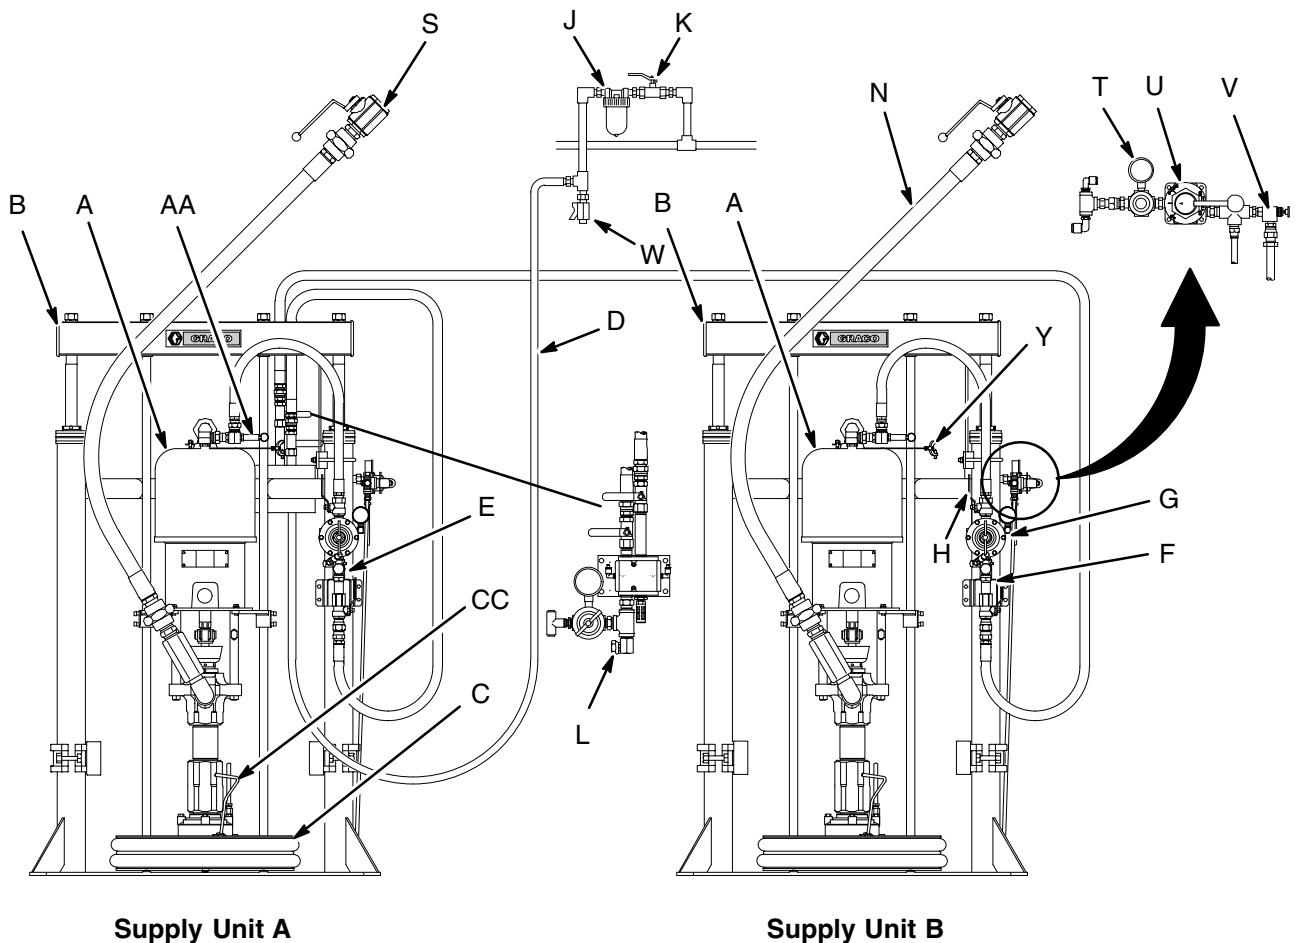
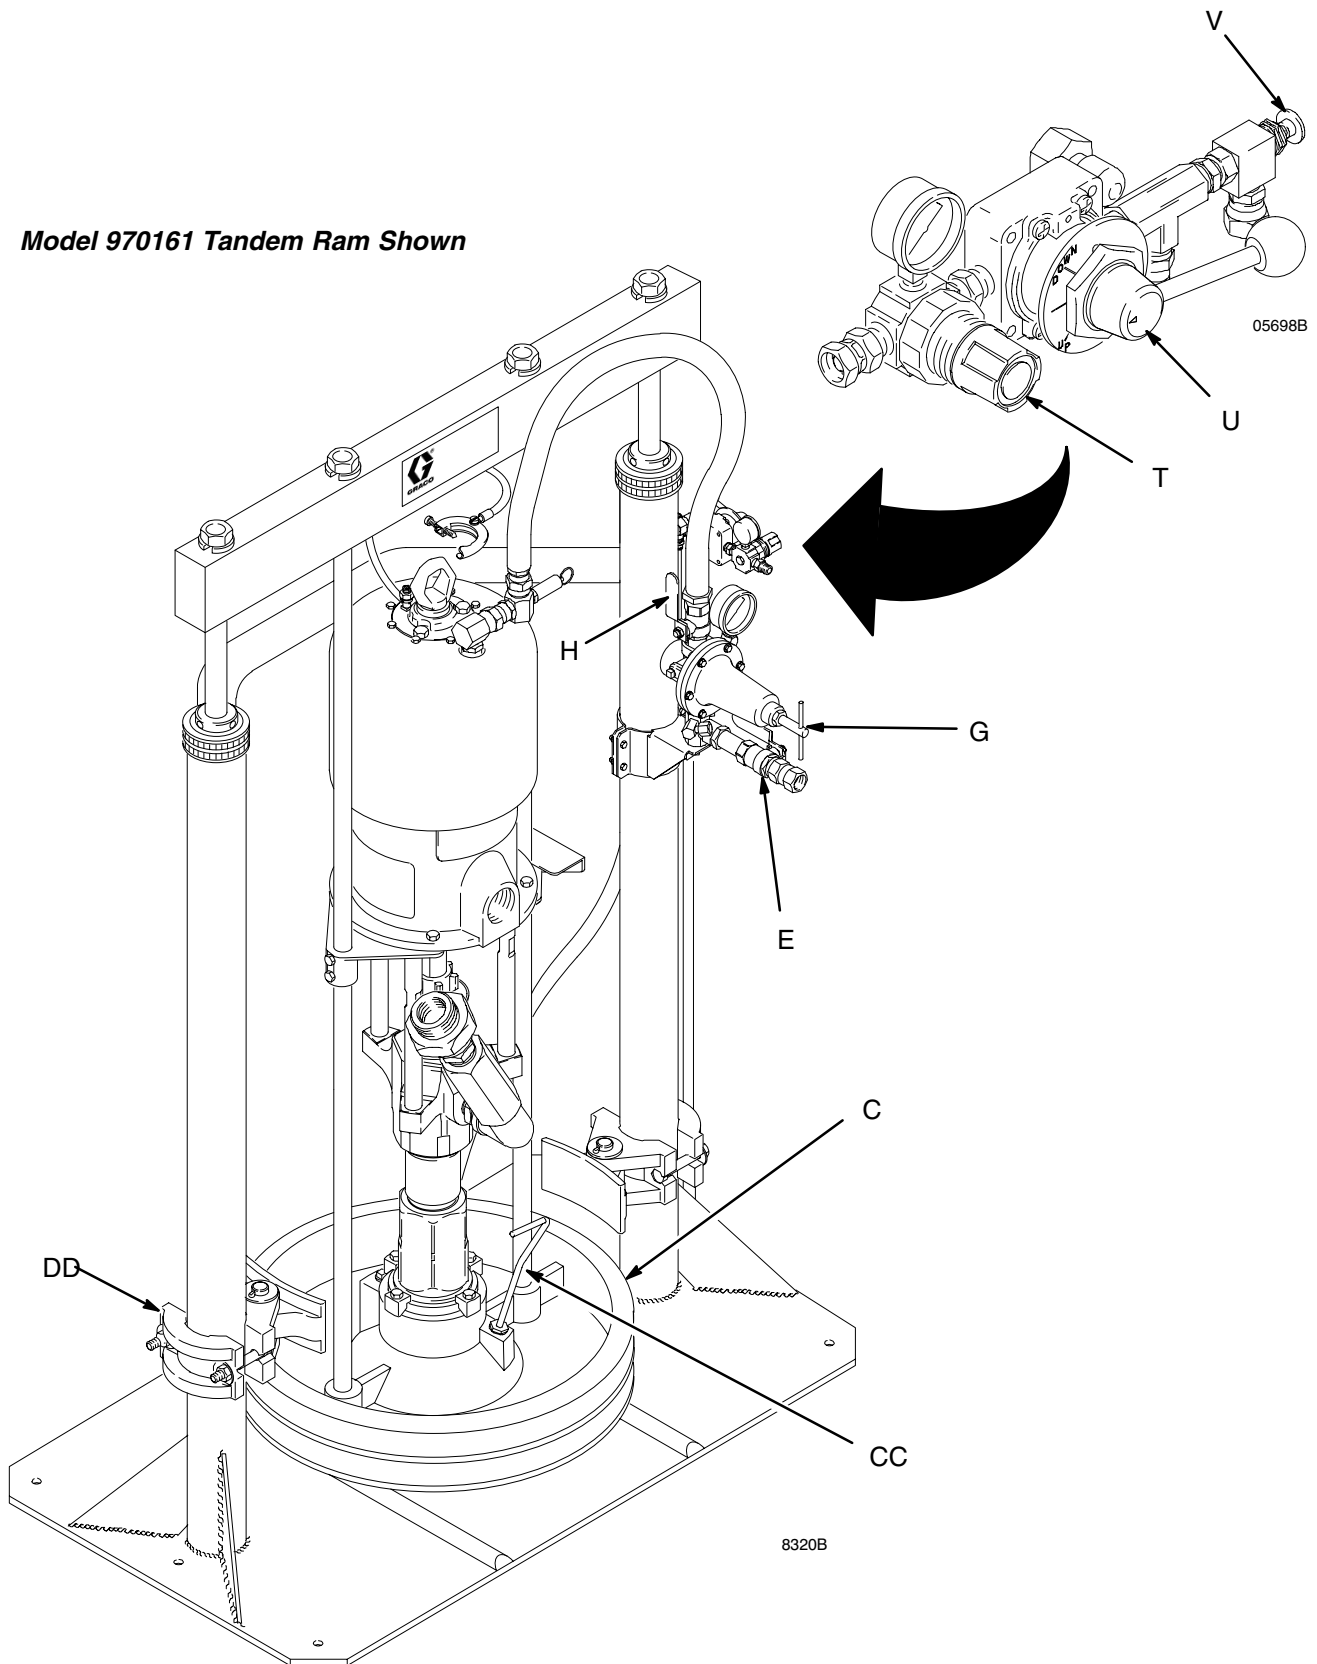

Fig. 1
Fig. 7
System 970161 includes a dual 55 gallon supply unit with pneumatic crossover for continuous material supply. System 970162 includes a dual 55 gallon supply unit with electric crossover for continuous material supply. System 970164 is a single 55 gallon supply unit with a low-level shutoff. See Fig. 1.
Be sure all air hoses (D) and fluid hoses (N) are properly sized and pressure-rated for your system. Use only electrically conductive hoses. See Fig. 1.
2. Close dispenser ball valves (S). Unhook ball valves from system. See Fig. 1.
3. Close pump air bleed valve (H, required in your system). See Fig. 1 or Fig. 7.
4. Shut off main air bleed valve (E, required in your system). Set ram director valve (U) to DOWN. Ram will slowly drop.
2. Close all air regulators and air valves. See Fig. 7.
3. Open main air bleed valve (E) and set ram air regulator (T) to 2.8 bar, 0.26 MPa (40 psi). Move director valve (U) handle so arrow points to UP, and let ram rise to full height.
4. Set full drum of fluid on ram base, slide drum back against tube stop, and center under ram plate (C). Use drum clamps (DD) to center, hold, and properly align drum with ram.
1. Be sure pump air regulator (G) is closed. Set ram air regulator (T) to 3.5 bar, 0.35 MPa (50 psi). Set director valve (U) to DOWN. See Fig. 7.
3. Keep director valve (U) set to DOWN while pump is operating.
1. Stop pump. Close pump air bleed valve (H). See Fig. 7.
2. Before raising wiper plate, locate push button on air release valve (V).
3. Set director valve (U) to UP to raise wiper plate. At the same time, carefully equalize pressure in drum by operating air release valve.
1. Set director valve (U) to neutral. See Fig. 7.